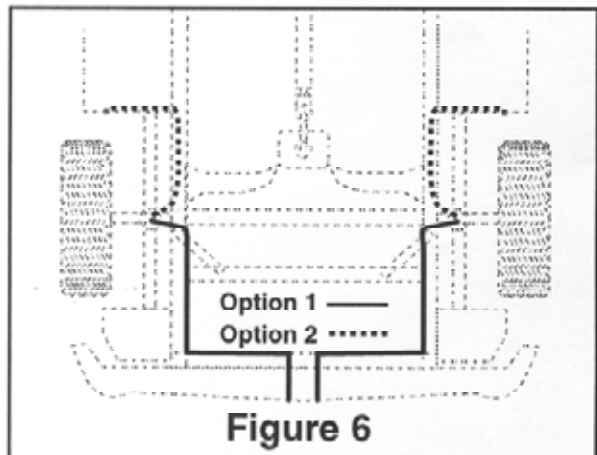

Figure 6
- A. Select a location for the inflation valves on the bumper, under the hood near the latch, or behind the license plate, assuring that each valve will be protected and accessible with an air hose (Figure 6).